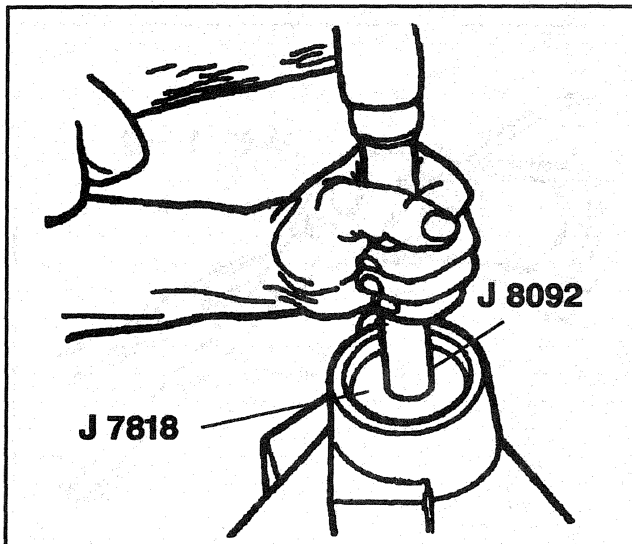

Figure 17 Installing Outer Pinion Bearing Cup
3. Drive the outer bearing cup into the axle assembly using J 7818 and J 8092 (Figure 17).